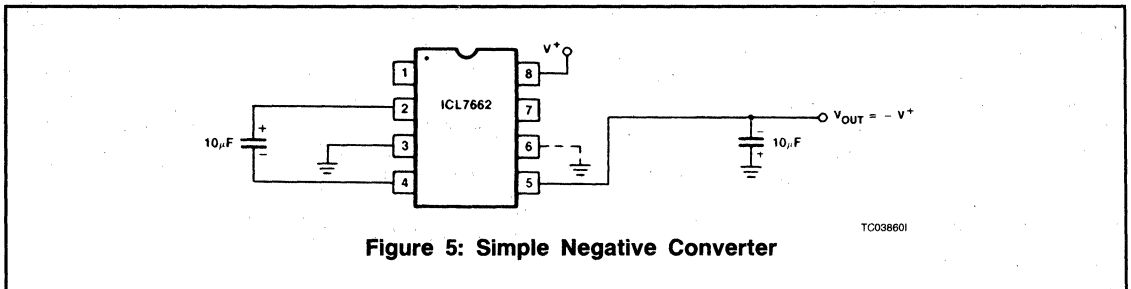

Figure 5: Simple Negative Converter
The majority of applications will undoubtedly utilize the ICL7662 for generation of negative supply voltages. Figure 5 shows typical connections to provide a negative supply where a positive supply of +4.5V to 20.0V is available. Keep in mind that pin 6 (LV) is tied to the supply negative (GND) for supply voltages below 11 volts.
The output characteristics of the circuit in Figure 5 are those of a nearly ideal voltage source in series with 65 ohms. Thus for a load current of -10mA and a supply voltage of +15 volts, the output voltage will be 14.35 volts. The dynamic output impedance due to the capacitor impedances is approximately 1/ωC, where:
Figure 11 combines the functions shown in Figures 5 and 10 to provide negative voltage conversion and positive voltage doubling simultaneously. This approach would be, for example, suitable for generating +9 volts and -5 volts from an existing +5 volt supply. In this instance capacitors  $C_1$  and  $C_3$  perform the pump and reservoir functions respectively for the generation of the negative voltage, while capacitors  $C_2$  and  $C_4$  are pump and reservoir respectively for the doubled positive voltage. There is a penalty in this configuration which combines both functions, however, in that the source impedances of the generated supplies will be somewhat higher due to the finite impedance of the common charge pump driver at pin 2 of the device.